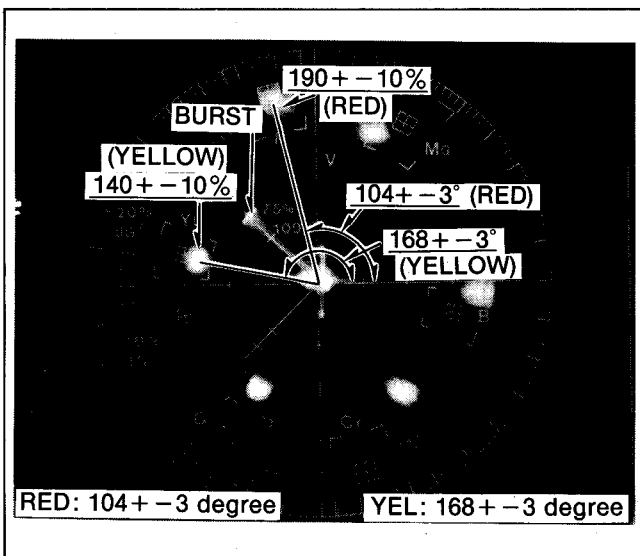

Fig. C23
7. * Push the [INC] or [DEC] keys until phase of red and yellow vectors are as close as possible to Spec. See Fig.C23.
10. * Push [INC] or [DEC] keys until phase of red and yellow vectors are as close as possible to Spec. See Fig.C23.
13. * Push [INC] or [DEC] keys until phase of red and yellow vectors are as close as possible to Spec. See Fig.C23.
15. Repeat the Step(3) to Step(14) until vectors becomes within Spec. as shown in Fig.C23.